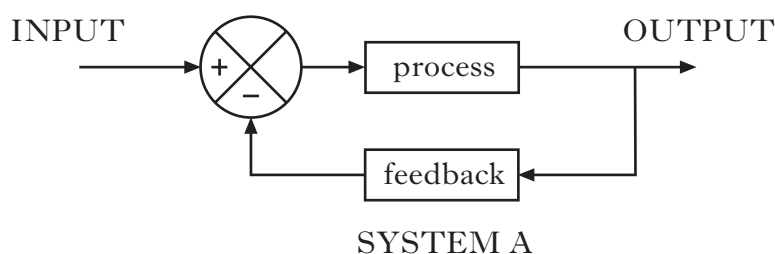

Figure Q10
10. Figure Q10 shows the block diagram for a control system.
(c) System A, in Figure Q10, will have a certain response to an input step change in required temperature. On **Worksheet Q10** in the space provided on each graph enter the corresponding control strategy from the list below.